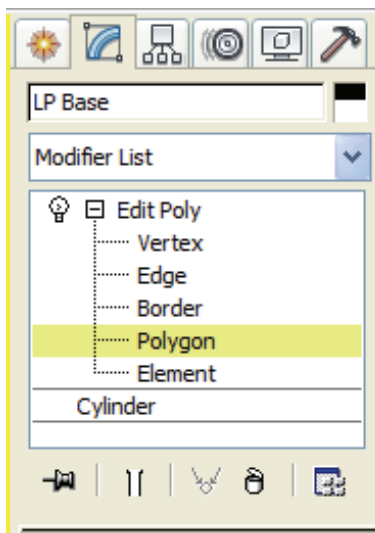

Figure 3–24
3. In the *Modify* tab () , select **Edit Poly** from the Modifier List. Click  for Edit Poly and select **Polygon** to activate Sub-object mode at the Polygon level. The yellow highlighting in the Modifier Stack indicates that you are now in Sub-object mode, as shown in Figure 3–24.